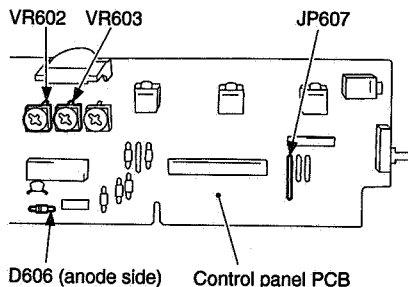

Figure 3-45
- 10) Turn VR603 (AE gain adjustment) until the voltage between the anode side of the diode (D606; +) and JP607 (GND) is 1.8 ± 0.1 V; see Figure 3-45.